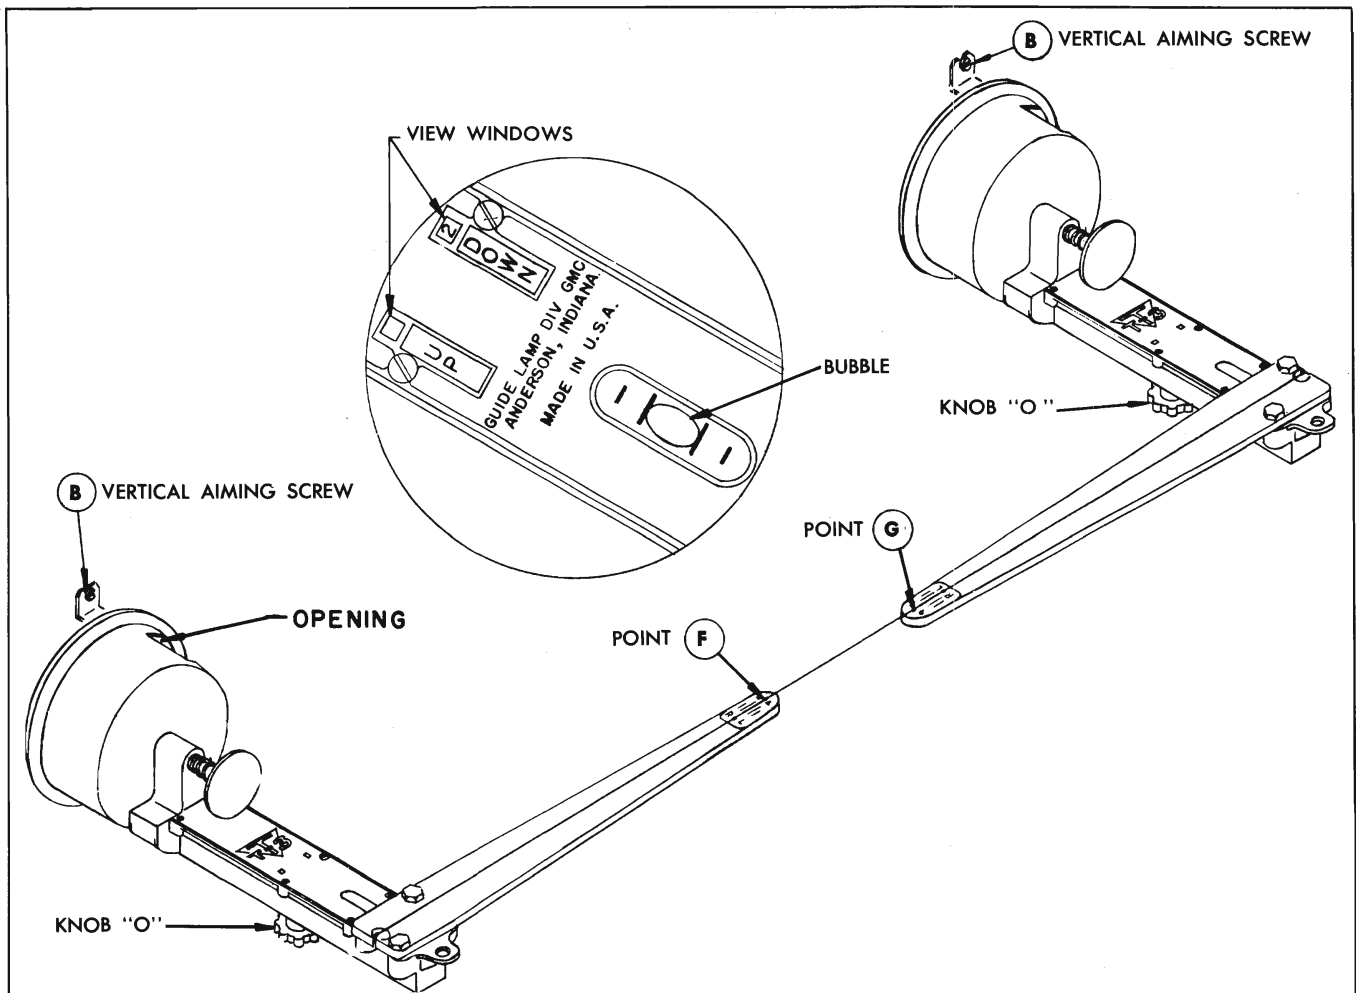

Fig. 11-125 Vertical Aim Adjustment
- a. Loosen knob "O" (Fig. 11-125) and move slider until numeral "2" appears in DOWN view window. Tighten knob.